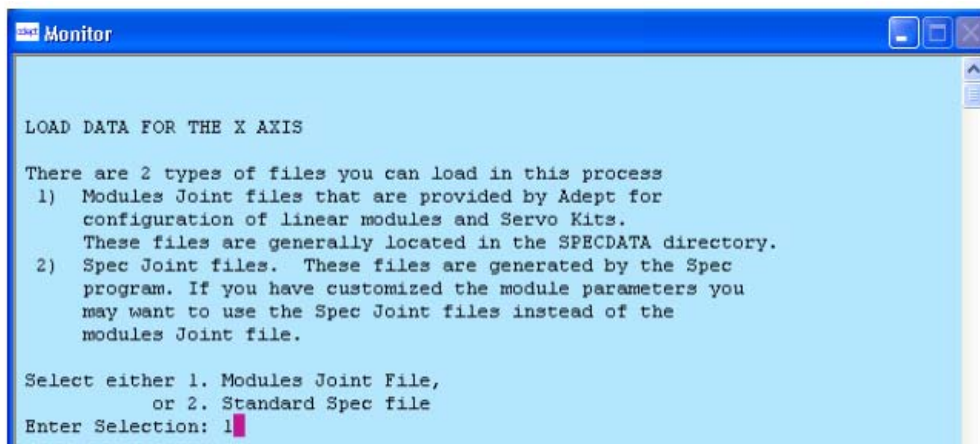

Figure 4-10. DC_SETUP Load Data for the Axis (JTS Coordinated-Joint-Control Module)
7. Type "Y" to configure this channel. A screen similar to the one shown in Figure 4-10 will be displayed.